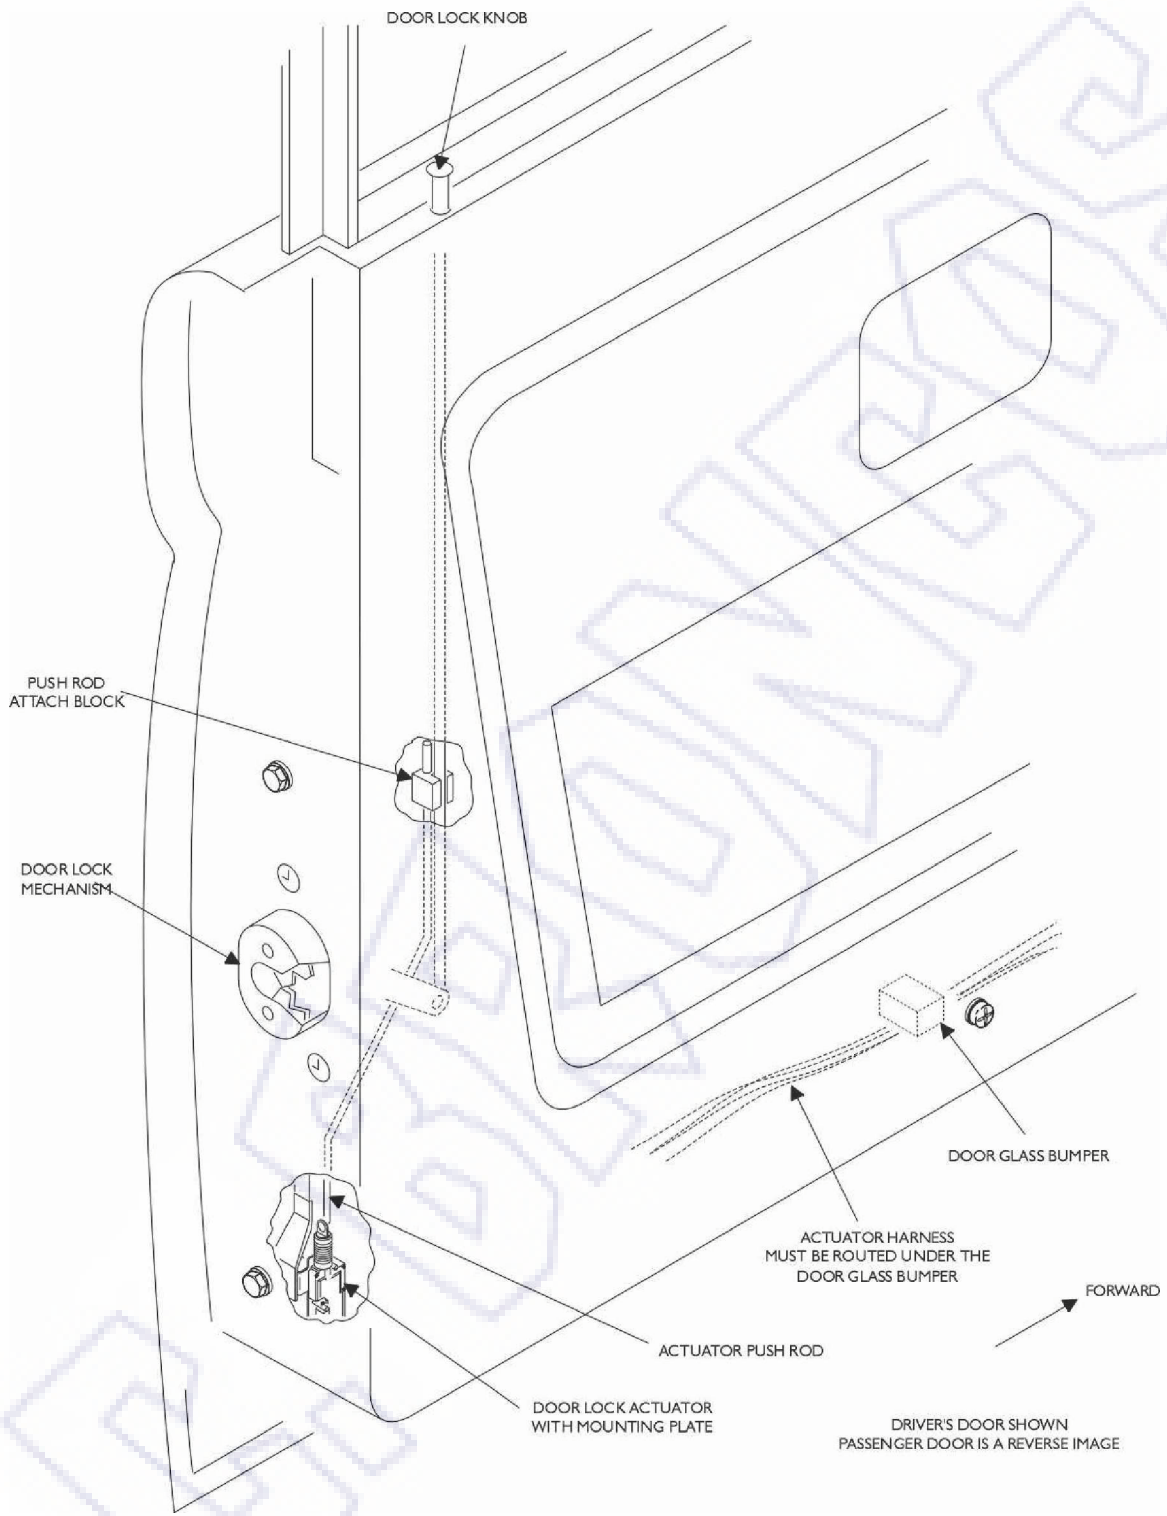

Figure 1. Door Lock overall view.
6. Figure 1 is an overall reference illustration of the installation.
15. Inside the door, route the wire harness under the door glass bumper to protect it from the glass mechanism. See Figure 1.